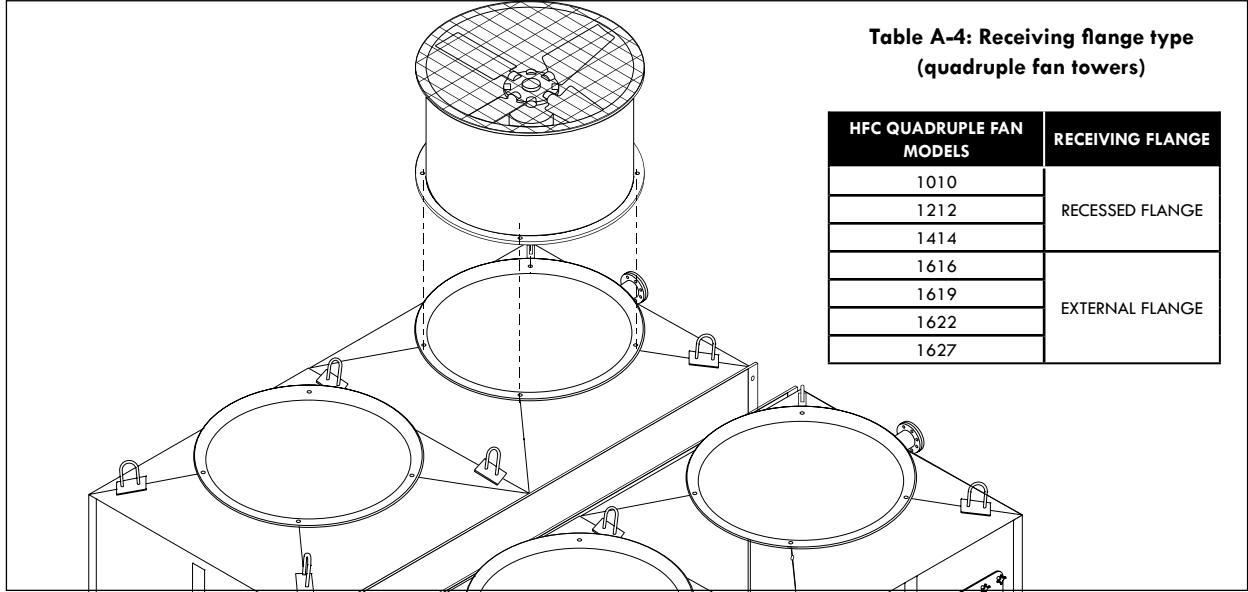

Figure A-26: Fan duct installation for a quadruple fan tower
- M. Identify each fan duct, they are labeled with a number on the inside of the lower edge. For a correct installation, this number must match the number on the corresponding receiving flange. Place fan duct 1 on the corresponding receiving flange on top of section 1 of the tower (see Figure A-26); make sure the bolt holes and the marks inside the fan duct and receiving flange are aligned (Figure A-27). Secure it with the stainless steel nut and bolt sets supplied by REYMSA. There are two different types of receiving flanges, either one has its own assembly pieces (see Table A-4 to verify the Type of receiving flange of your tower).